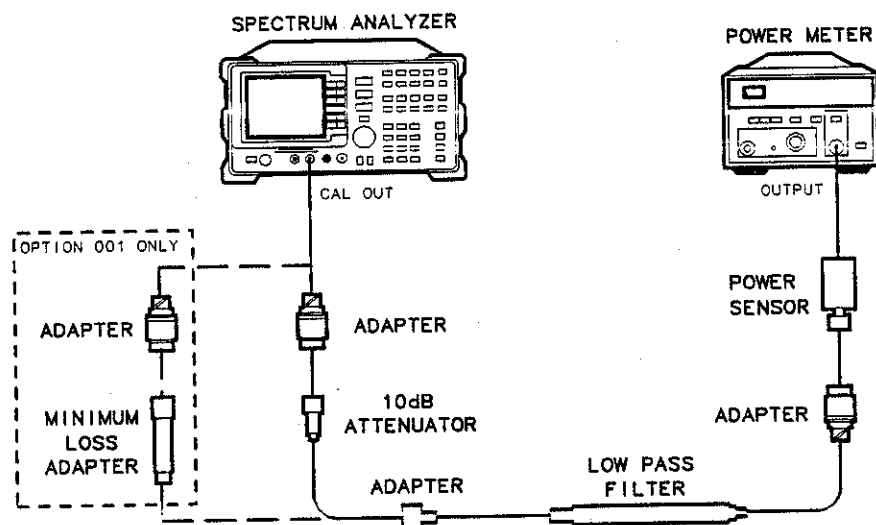

Figure 1-15. Calibrator Amplitude Accuracy Test Setup
1. Connect the equipment as shown in Figure 1-15. The spectrum analyzer should be positioned so that the setup of the adapters, LPF and attenuator do not bind. It may be necessary to support the center of gravity of the devices.